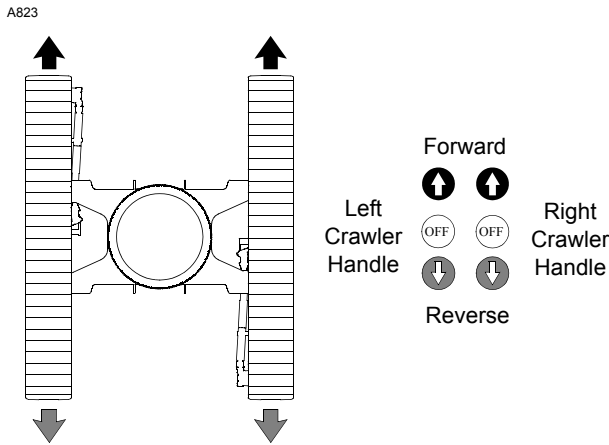

FIGURE 3-21
- 7. To TRAVEL STRAIGHT (Figure 3-21), move both crawler handles same amount in desired direction from off.